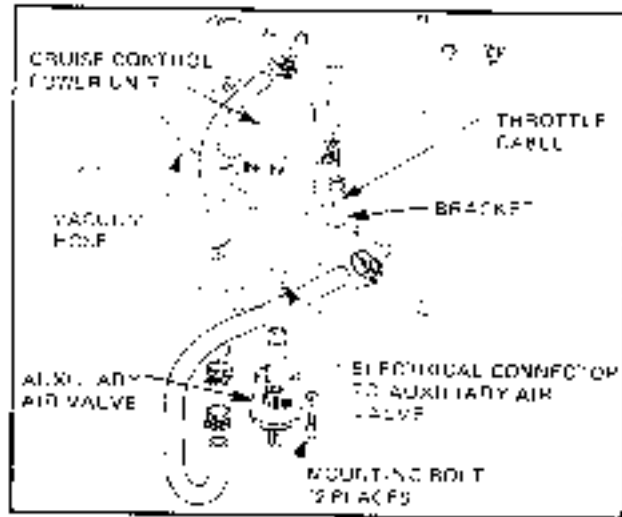

Figure 6A-13
10. Remove fuel hoses from fuel damper, plug with suitable plugs. Refer Fig. 6A-14.